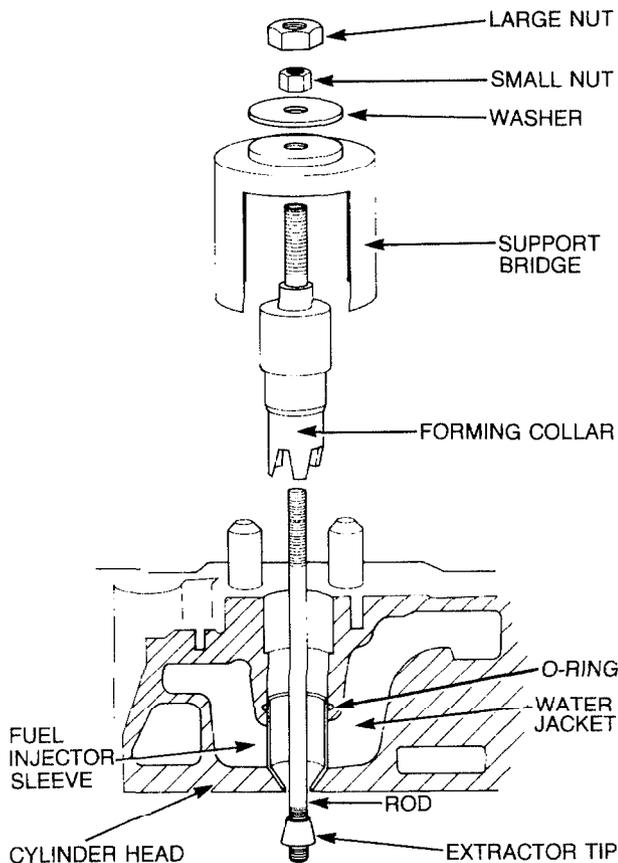

Figure 6 — Fuel Injector Sleeve — Removal
- b. Position the support bridge over the upper surface of the cylinder head (see Fig. 6) and install the forming collar. Screw the small (9/16 in. UNC) nut onto the support bridge end of the rod, finger tight, then place the flat washer and the large (1 in. UNC) nut on the forming collar. Install the driver on top of the large nut and firmly strike the driver with a suitable hammer, to push the forming collar into the injector sleeve.